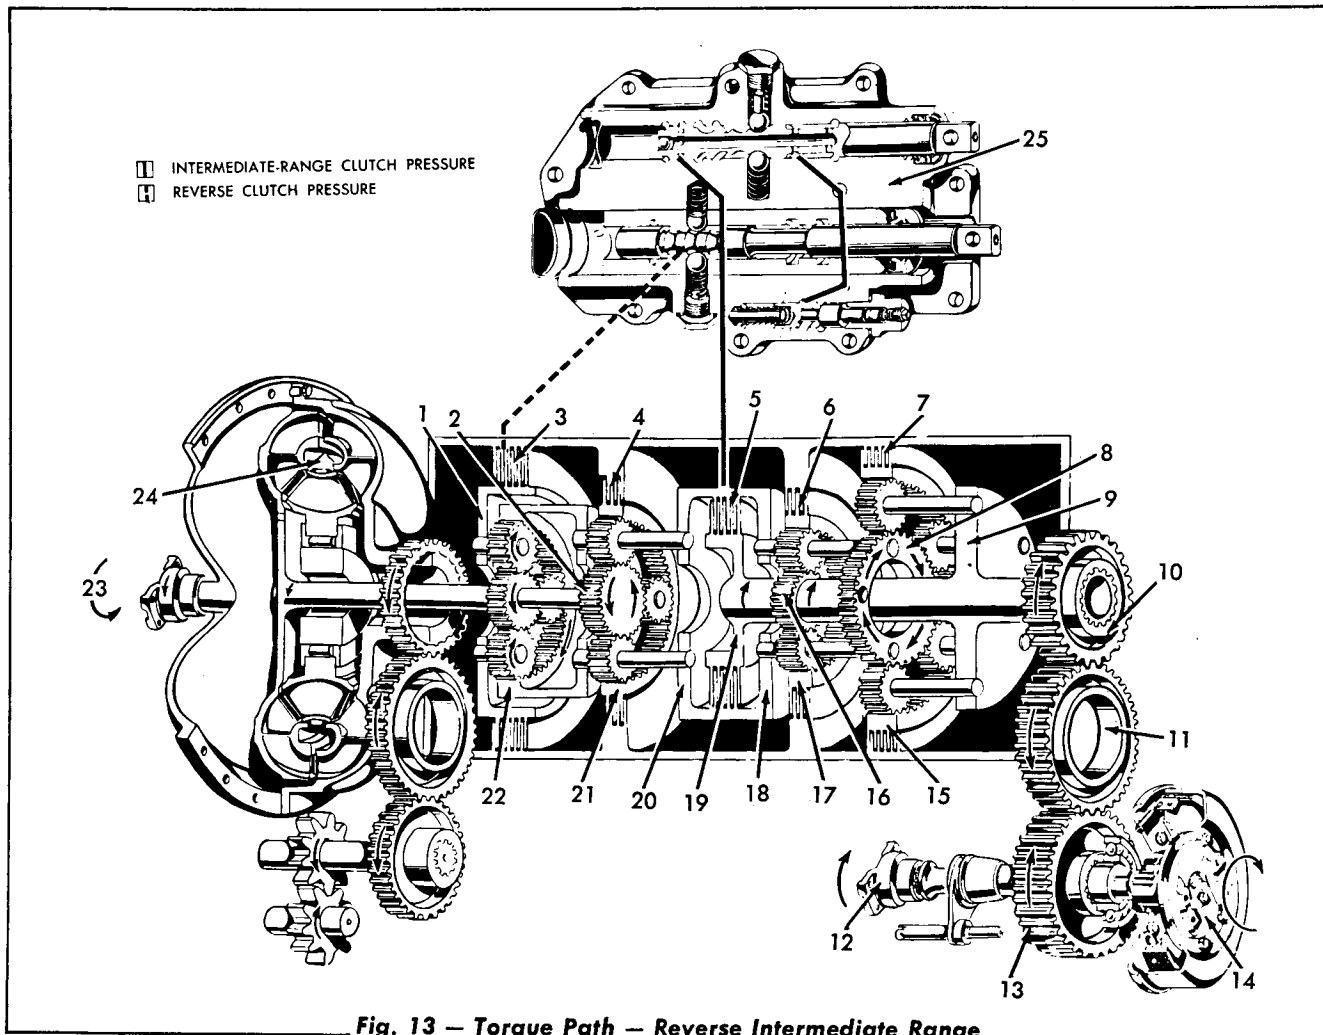

Fig. 13 — Torque Path — Reverse Intermediate Range
7. Intermediate-Reverse Range Torque Path (Fig. 13)